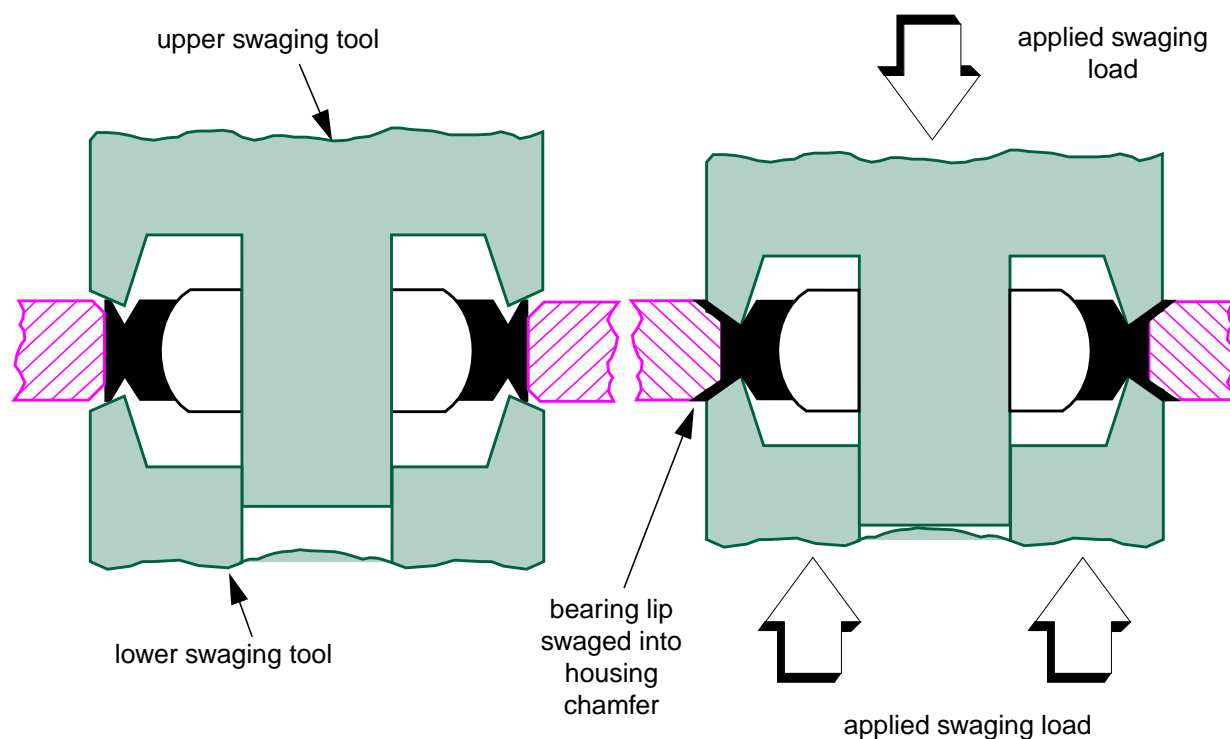

Figure 3 - Press Swaging of MS Type Bearings
5.4.2.1 Press swage MS type bearings as follows (see Figure 3):